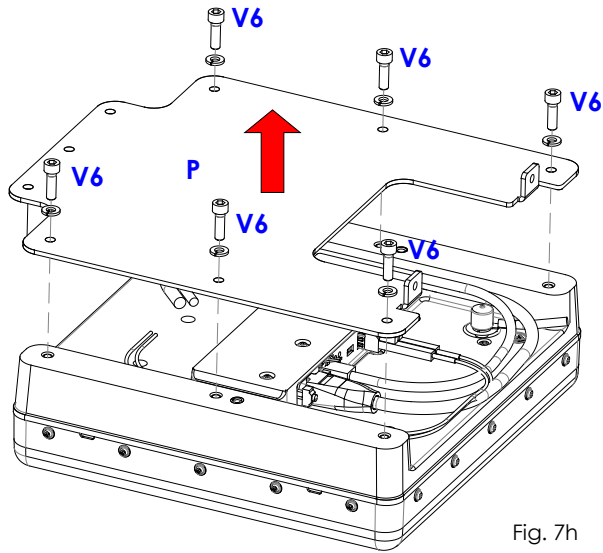

Fig. 7h
- Taking care not to damage any cables, undo the 6 screws (V6) and remove the FPD by its plate of support (P) (Fig.7h).